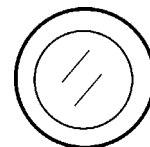

Figure 43. Pre-Heat Button
- Press and hold the **pre-heat button** (Figure 43) for at least 5 seconds to warm the engine glow plugs. (manual mode only).